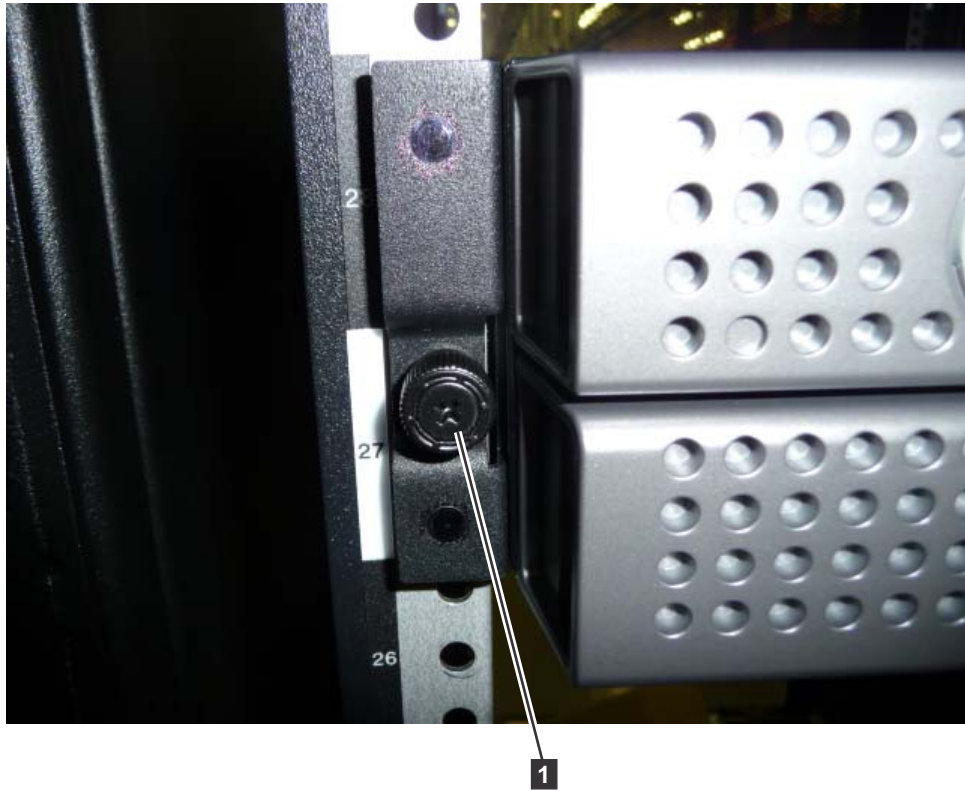
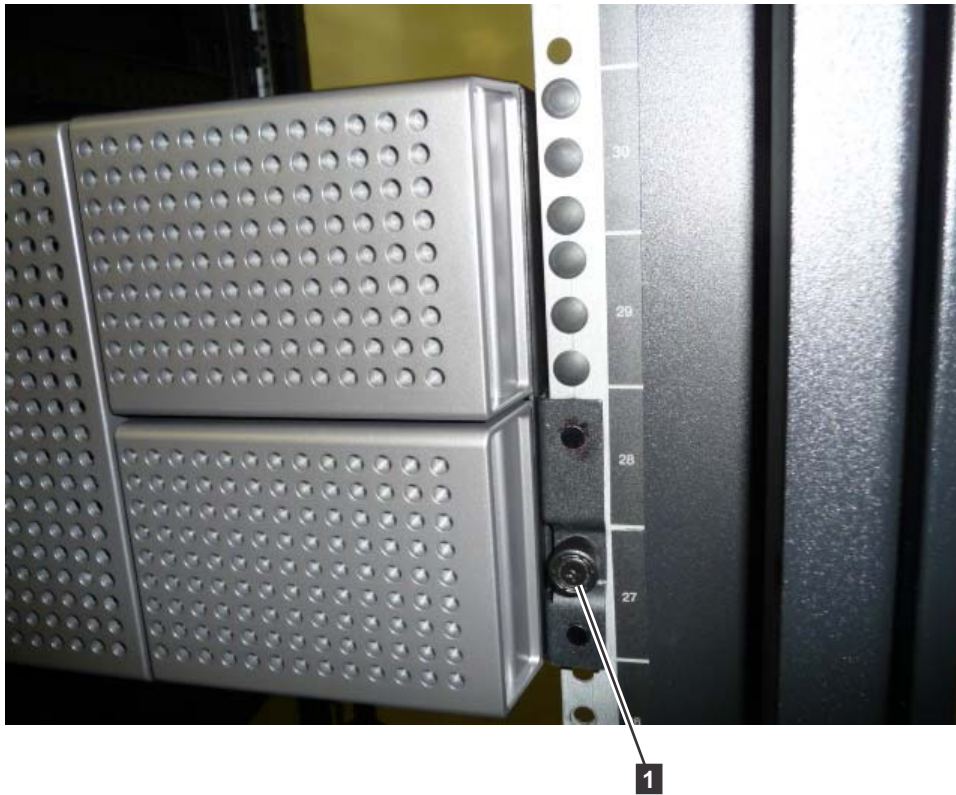

Figure 4-17. Securing the 2U library to the rack
Figure 4-18. Securing the 4U library to the rack
8. Using a #2 Phillips screwdriver, secure the library to the rack (see Figure 4-17 on page 4-15 or Figure 4-18 on page 4-16) by placing a screw in the center hole
9. Install either the round or the square rack hole covers for the 4U library as shown in Figure 4-18. There are 6 covers for each side for a total of 12.